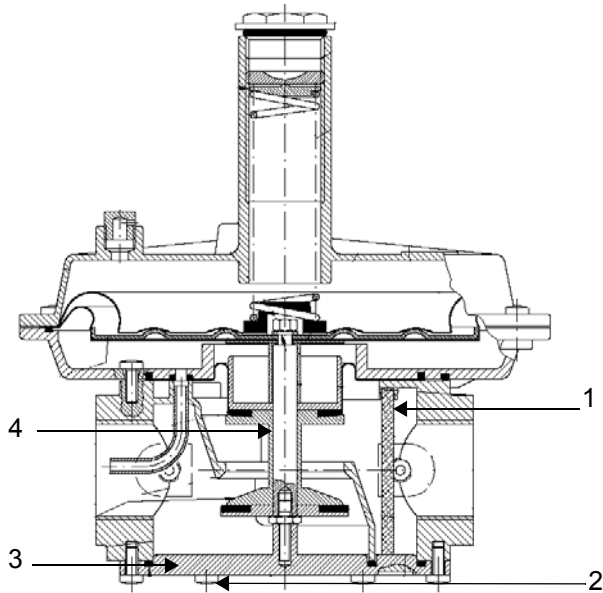

Fig. 25 - threaded body
To check the filtering part (1) on threaded bodies (see picture Fig. 25):
- remove the filtering part (1), clean it with water and soap, blow it with compressed air or replace it if necessary;
- reassemble the filtering part in its initial position checking that it is placed in its own slots (see picture Fig. 25);
- reassemble the bottom cover (3), being sure that the main bolt is centered in the bottom cover slot.